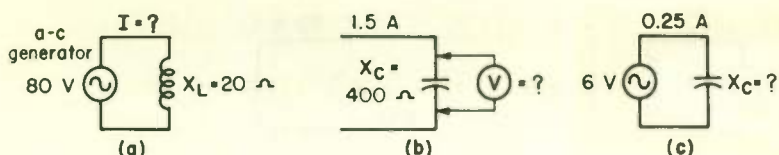

Fig. 1 Unknown values can be found by Ohm's law.
EXAMPLE . . . In Fig. 1 find (a) the current in part (a) of the figure, (b) the voltage in part (b), and (c) the value of X_C in part (c).
- In Fig. 1(a) the circuit current (*leads by 90°*) (*lags by 90°*) (*is in phase with*) the applied voltage.
- In Fig. 1(c) the circuit current (*leads by 90°*) (*lags by 90°*) (*is in phase with*) the applied voltage.